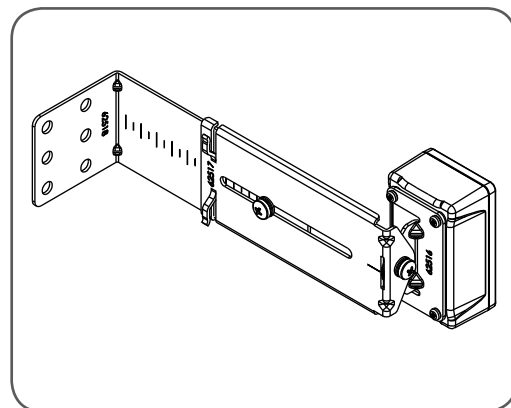

fig 40
- Attach the bracket (2) to the Safety Beam transmitter with four taptite screws (m3x5) and attach the other side to the adjustment bracket (3) with the pan head screw (6). (Fig. 40)